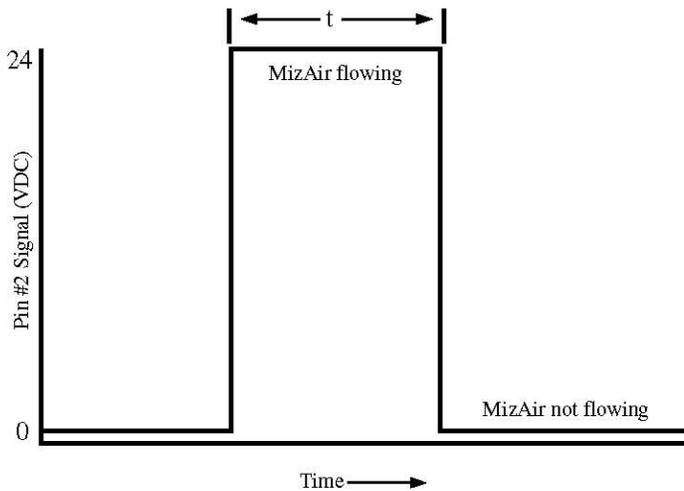

FIGURE 3 (Stroke counter connection)
1. Pin #2 (blue) may be used for monitoring or data collection purposes (refer to figures 3 & 4). During typical operation, time "t" will vary between 200mS and 800mS of duration. The time at 24VDC represents the time the MizAir is flowing air to the pump. Since air is added once per stroke, this signal represents one pump stroke and can be used as a pump stroke counter.